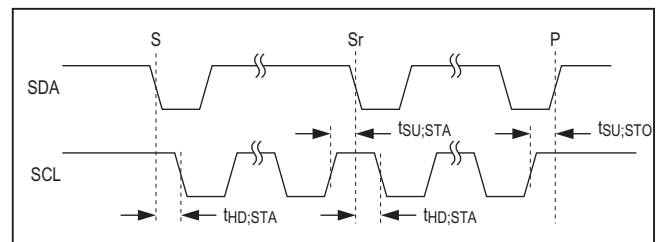

Figure 6. START and STOP Conditions
When the serial interface is inactive, SDA and SCL idle high. A master device initiates communication by issuing a START condition. A START (S) condition is a high-to-low transition on SDA with SCL high. A STOP (P) condition is a low-to-high transition on SDA, while SCL is high (Figure 6).